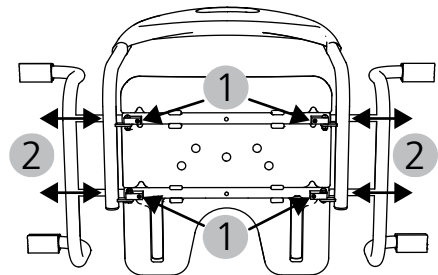

Abb. 5
2. Place the bath seat in the bath and pull both side supports out evenly so that the rubber pads rest completely on the edge of the bath (Fig. 5, 2).
3. Now remove the bath seat from the tub and retighten the four screws (Fig. 5, 1).